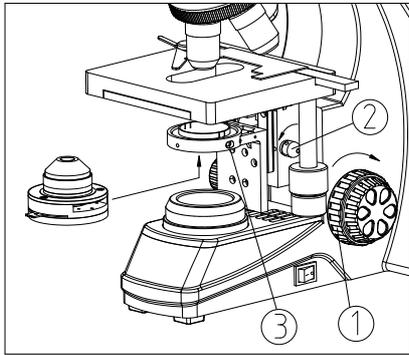

Fig. 3
1. Rotate the coarse focusing knob ① to raise the stage to the highest position (see Fig. 3).
2. Rotate the condenser up-down knob ② to lower the bracket of condenser to the suitable position.
3. Fully loosen the condenser lock-screw ③.
5. Tighten the lock-screw ③ of condenser, then raise the condenser with the up-down knob to the highest position.